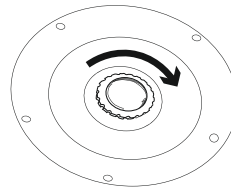

Fig. 4
4. Turn the Locking Nut clockwise until the Base Pole is locked tightly. (Fig 4)